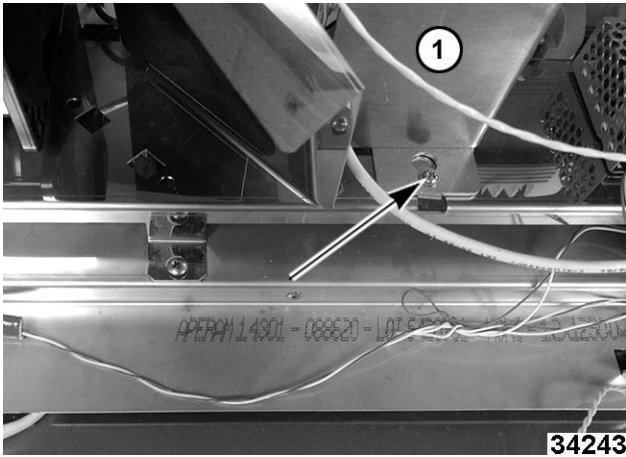

Fig. 12
3. Loosen two screws and slide output control assembly (1, Fig. 12) to front.